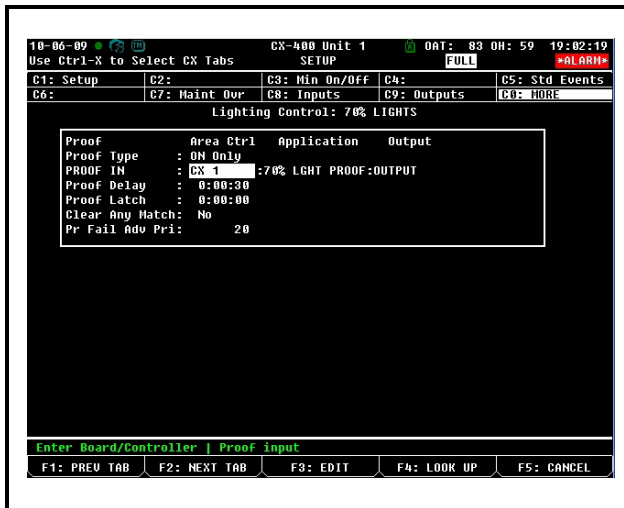

Figure 2-18 - The Digital Combiner Used To Group Inputs
6. Go back to the Lighting application under the **More** tab and associate the Lighting group (**Figure 2-18**) with the Digital Combiner application: